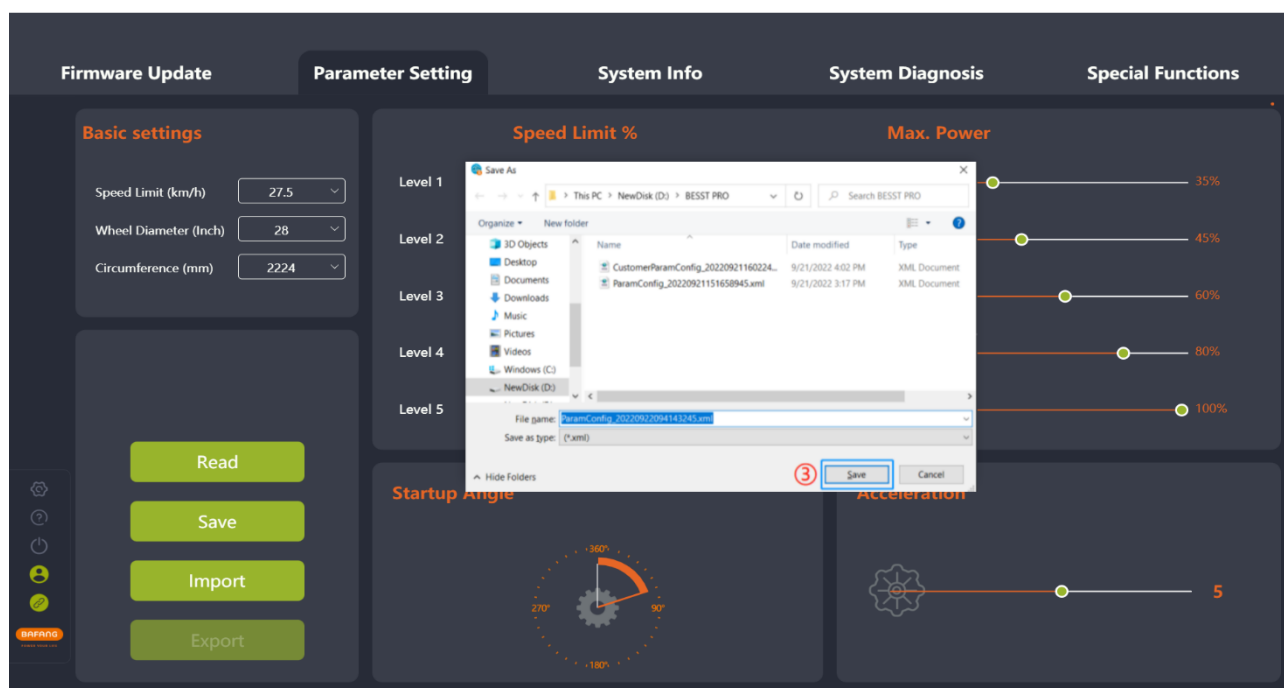

Fig. 5-10 Export
- (2) Export the configuration information of the parameter interface and the controller hardware version (for import verification) to a file and save it locally. The path can be chosen independently and the file name can be edited, for example: ParamConfig\_20220922094143245.xml (Fig. 5-10).